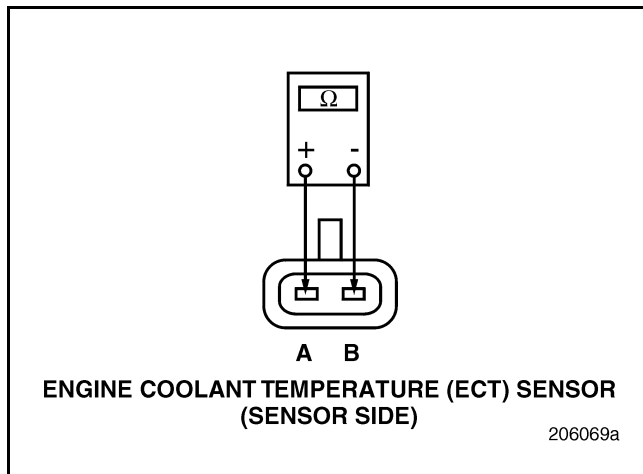

Figure 140
3. Measure the resistance across the pins of the ECT Sensor with the coolant temperature between 32° and 194°F (0° and 90°C) (see Figure 140).